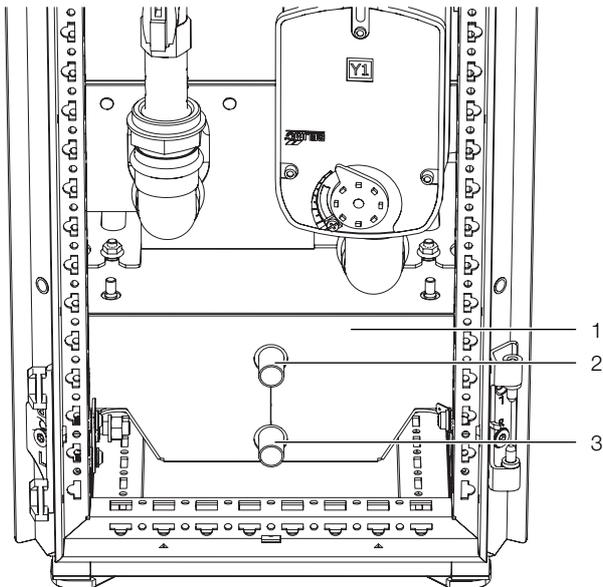

Fig. 87: Condensate discharge
Any condensate which may develop is collected in the base tray (fig. 87, item 1) in the water module of the Liquid Cooling Package.
The Liquid Cooling Package is additionally equipped with a condensate discharge (fig. 87, item 3 or item 2) via which the condensate is pressurelessly routed out of the Liquid Cooling Package.